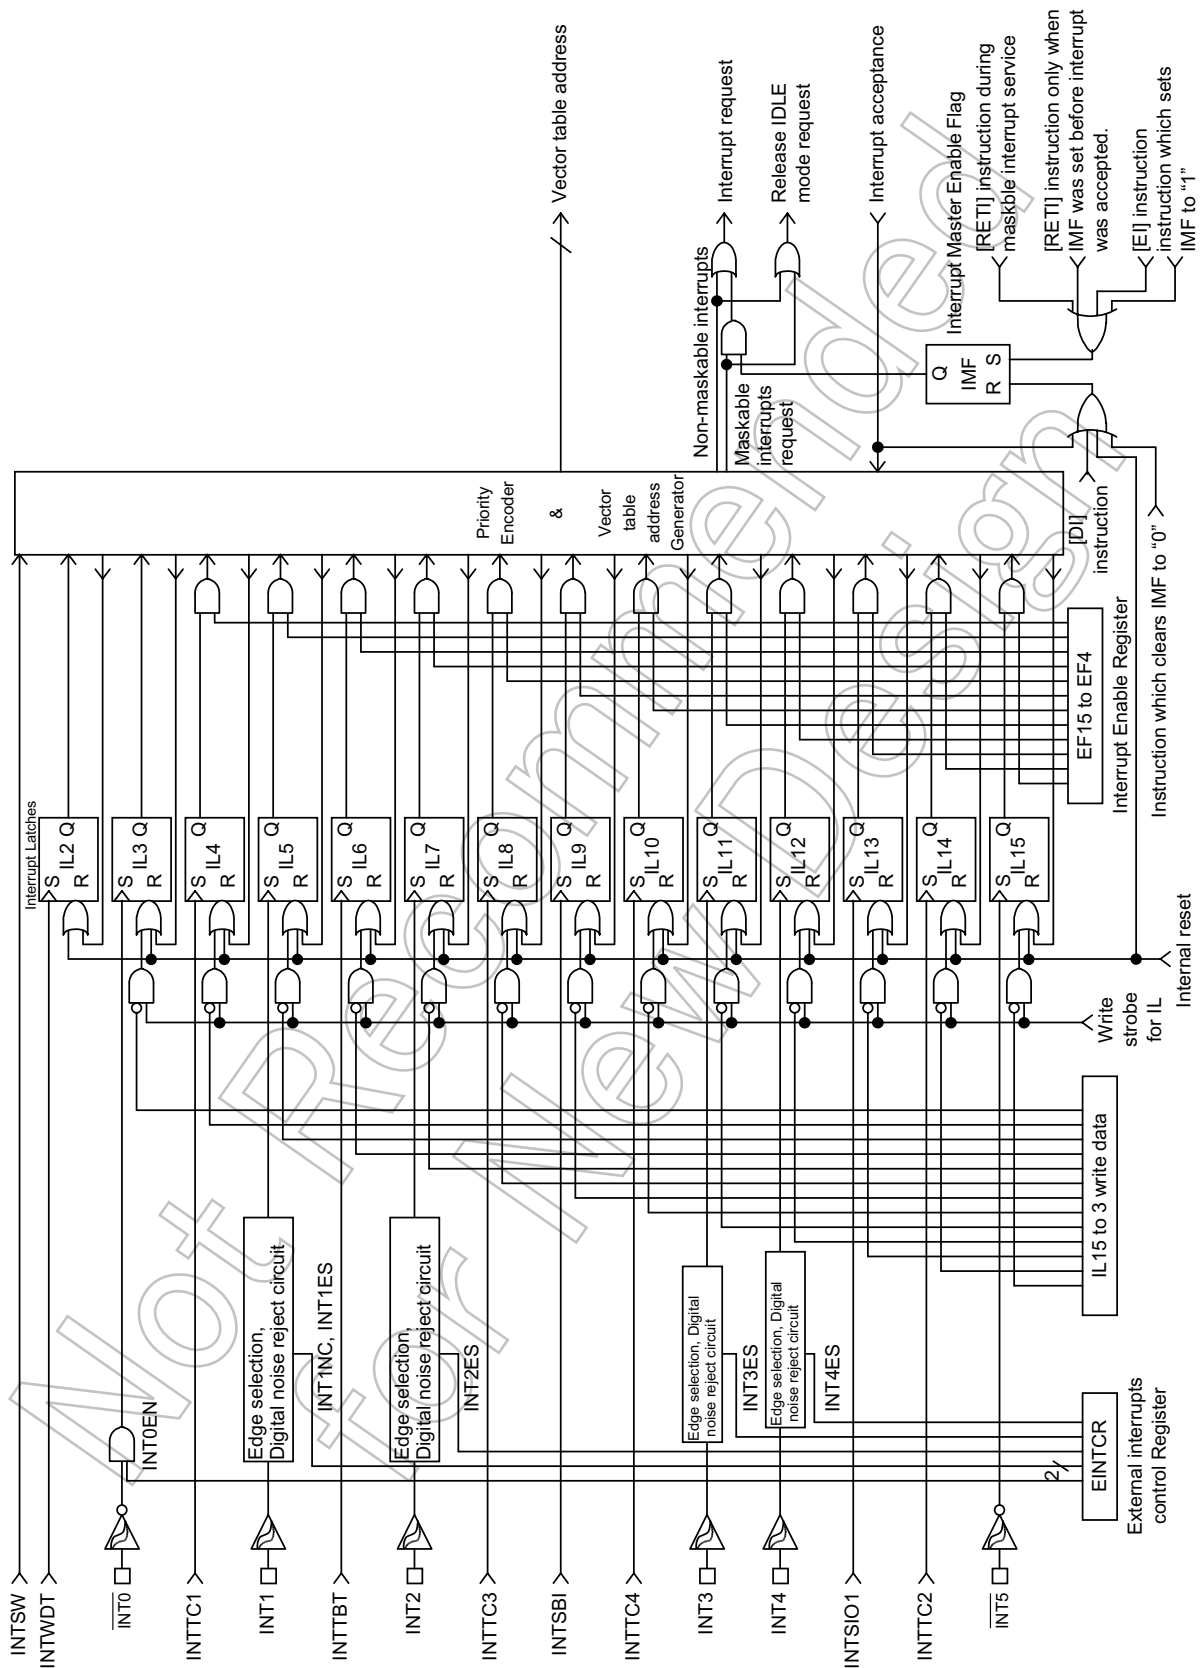

Figure 1.5.1 Interrupt Controller Block Diagram
The interrupt latch is set to “1” when an interrupt request is generated and requests the CPU to accept the interrupt. The acceptance of maskable interrupts can be selectively enabled and disabled by the program using the interrupt master enable flag (IMF) and the individual interrupt enable flags (EF). When two or more interrupts are generated simultaneously, the interrupt is accepted in the highest priority order as determined by the hardware. Figure 1.5.1 shows the interrupt controller.